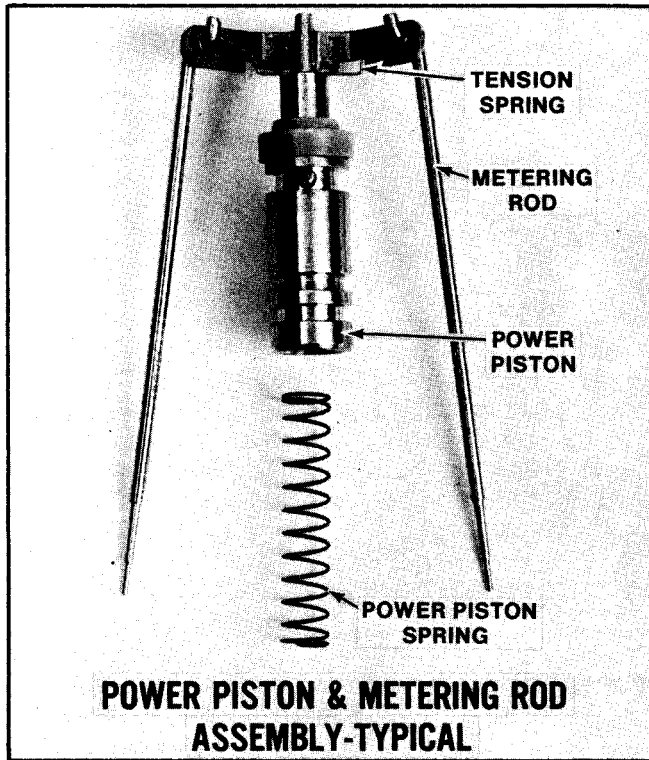

Figure 52 Power Piston-Metering Rod Assembly
7. Remove metering rods from main power piston hanger by disconnecting tension spring loop from top of each rod (Figure 52); then, rotate rod to remove from hanger.